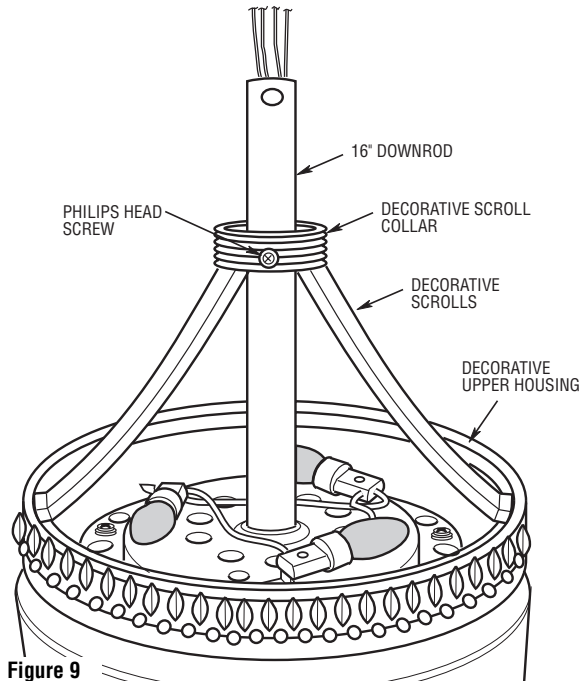

Figure 9
- 22. 16" Or Optional Longer Downrod Installation: Slide the decorative scrolls over the 16" downrod to rest upon the decorative upper housing (Figure 9) To secure the decorative scrolls to the downrod, tighten the Philips head screw in the decorative scroll collar.